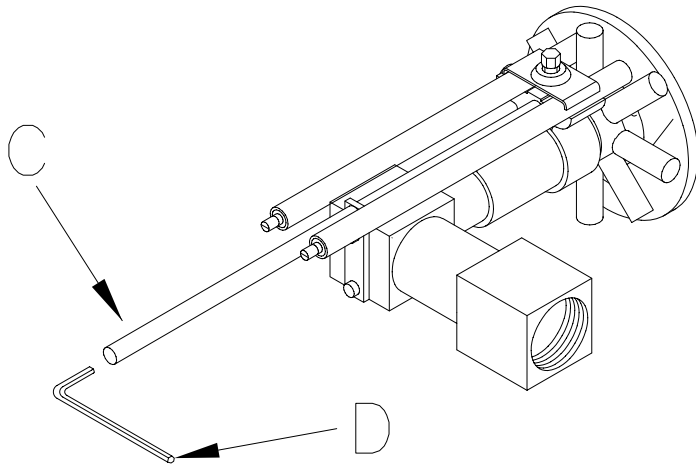

Figure 4
- e. The CO should not exceed 300 ppm. A reading greater than 300 ppm indicates a lack of air or misadjusted gas nozzle assembly. Open air damper slightly and note any change in CO. If no improvement is seen or burner pulsates, it may be necessary to adjust the gas nozzle assembly. Refer to Figure 4, page 7 for details.
- C. **Gas nozzle misadjusted.** Adjust nozzle per instruction in Figure 4, page 7.
- F. **Gas nozzle misadjusted.** Adjust nozzle per instruction in Figure 4, page 7.